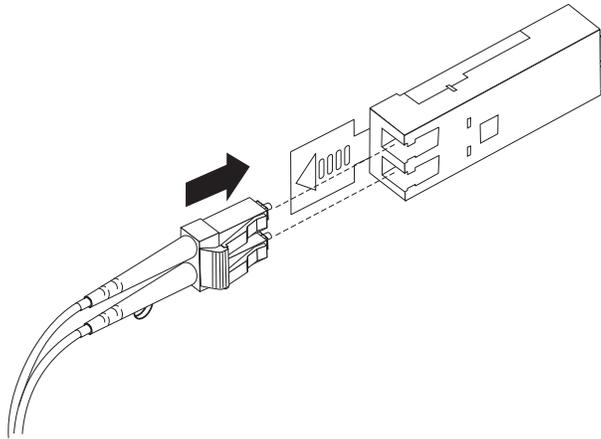

Figure 22. Inserting an LC-LC fibre-channel cable into an SFP module
4. Carefully insert this end of the LC-LC cable into an SFP module that is installed in the EXP5000. The cable connector is keyed to ensure it is inserted into the SFP module correctly. Holding the connector, push in the cable until it clicks into place, as shown in Figure 22 on page 39.